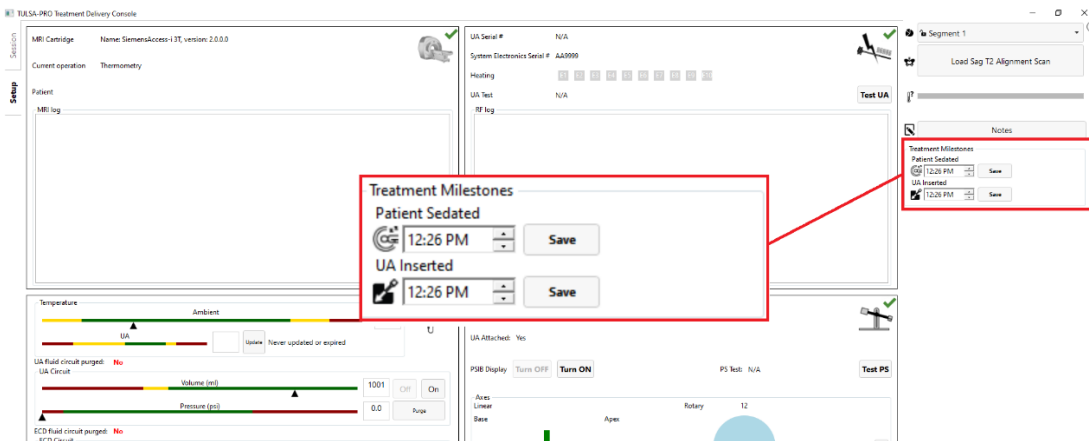

Figure 28: Entering Treatment Milestones in the TDC *Setup* Workspace.
1. In the TDC *Setup* Workspace, enter the sedation and UA insertion times under **Treatment Milestones** (Figure 28).